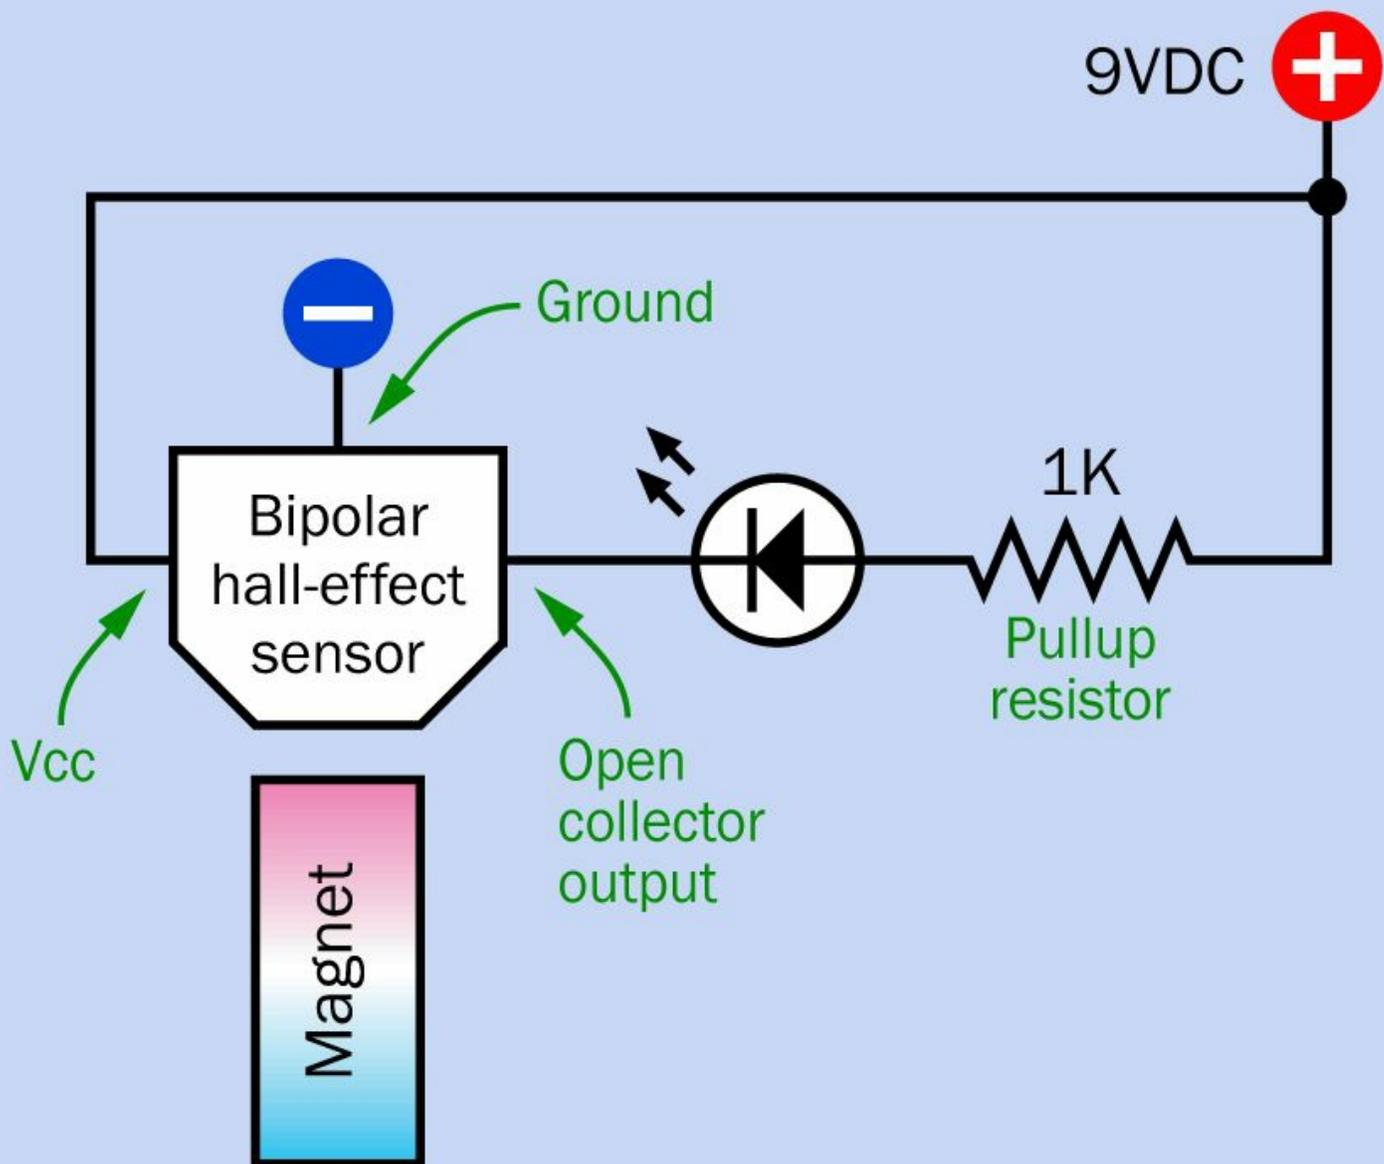

Figure 30-3. A very simple schematic for investigating Hall-effect sensors.
Assemble the schematic shown in Figure 30-3. Note that the sensor has an open-collector output, just like the phototransistor, the electret microphone, and the comparator that you have encountered previously. If you need to remember how this works, see The Output.
- When a pullup resistor is placed between the open-collector output of a Hall sensor and the positive side of the power supply as in Figure 30-3, the output will appear to be low when the sensor is activated and high when it is deactivated.